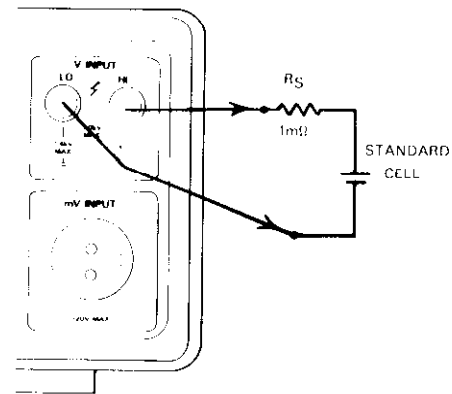

Figure 3-2. Absolute Cell Measurement Connections
Figure 3-2 shows the connections for making absolute standard cell voltage measurements. Once again, R_S is to be left in the circuit until the reading is actually taken. The basic procedure for making the absolute voltage measurement is as follows:
2. Connect the standard cell to the instrument as shown in Figure 3-2. Be sure to include R_S to protect the cell.